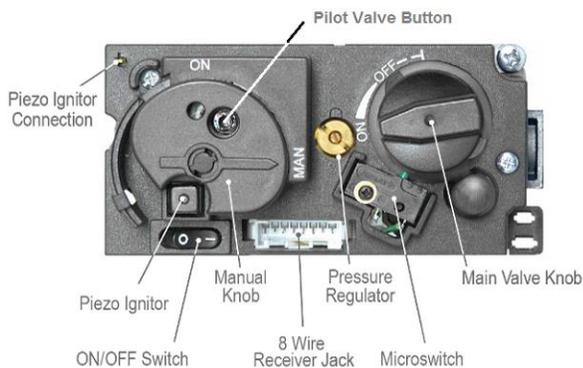

Figure 18 – GV60 Valve Configuration (Top)
- Locate and turn the MANUAL Knob on the valve clockwise to the “MAN” position (see Figure 18).
- Once the pilot lights, continue holding the Pilot Button for one (1) minute. Release the Pilot Button and the pilot flame should remain on.